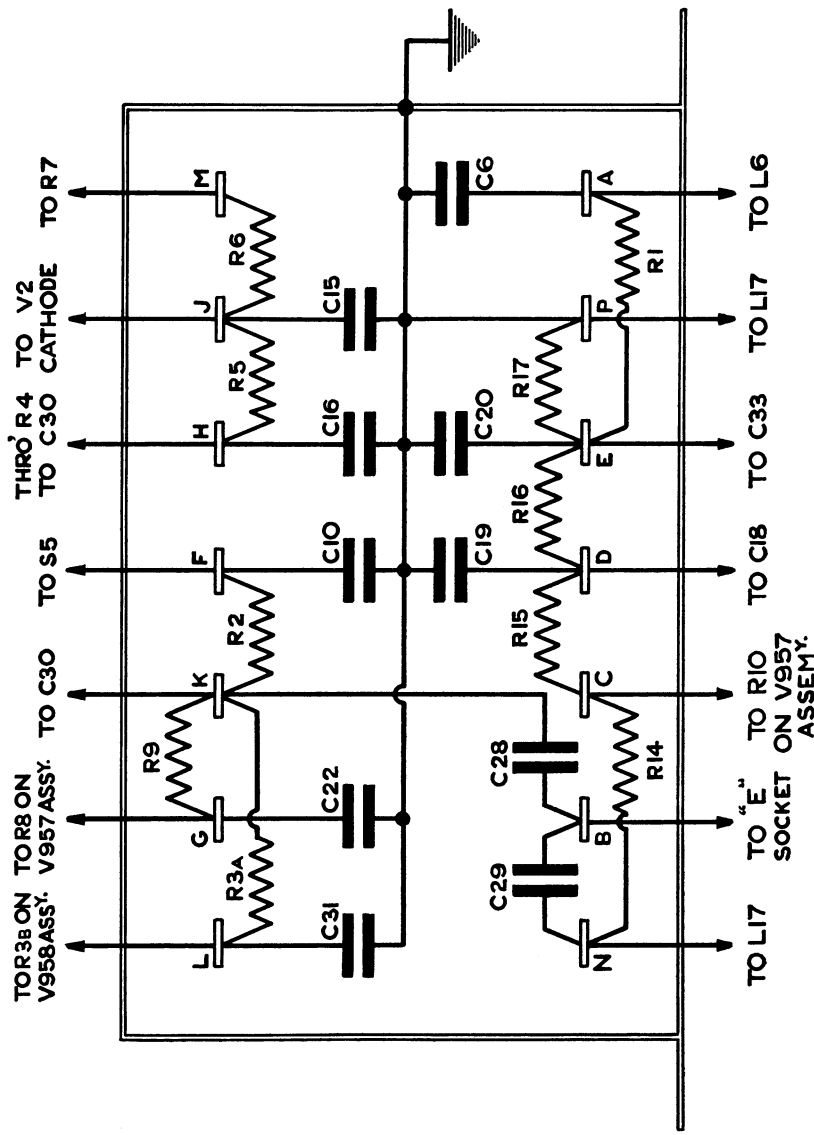

FIG. 4
W.953. This is a block of ten condensers and ten resistors. Fig. 4 shows how it is arranged, looking at the left side where the tags show. The numbers on the condensers and resistors show where they are in the circuit, by referring to the schematic (Fig. 1).